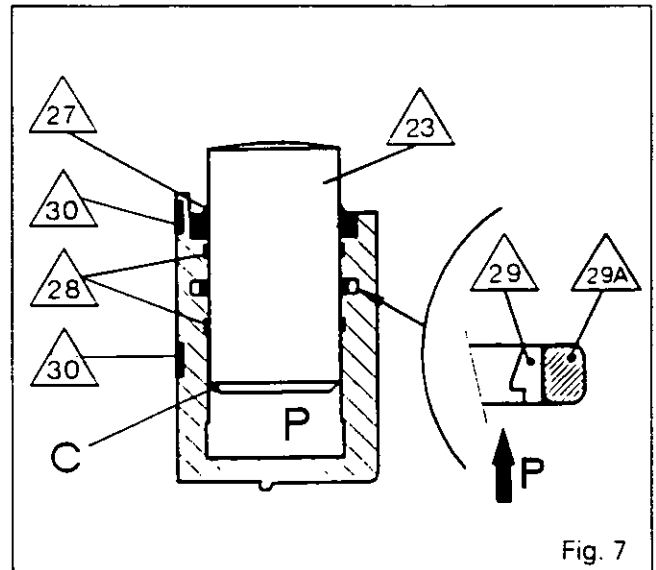

Fig. 7
#### Disassembly (Fig. 7)
8. Shape the guide rings /28\ so as to decrease their diameter by approximately one third. Using pliers and wearing protective equipment, install the rings in their grooves (Fig. 7), with the knurled face in contact with the piston /23\.
**Note: The sealing bushes must be positioned with their lips facing the pressure side (Fig. 7).**
13. Check that there are no burrs on the pistons /23\ . Fit the pistons, with the "C" chamfers facing the inside of the cylinders (Fig. 7).
14. Using a suitable fixture, fit the scraper rings /27\ fully home on their shoulder (Fig. 7).